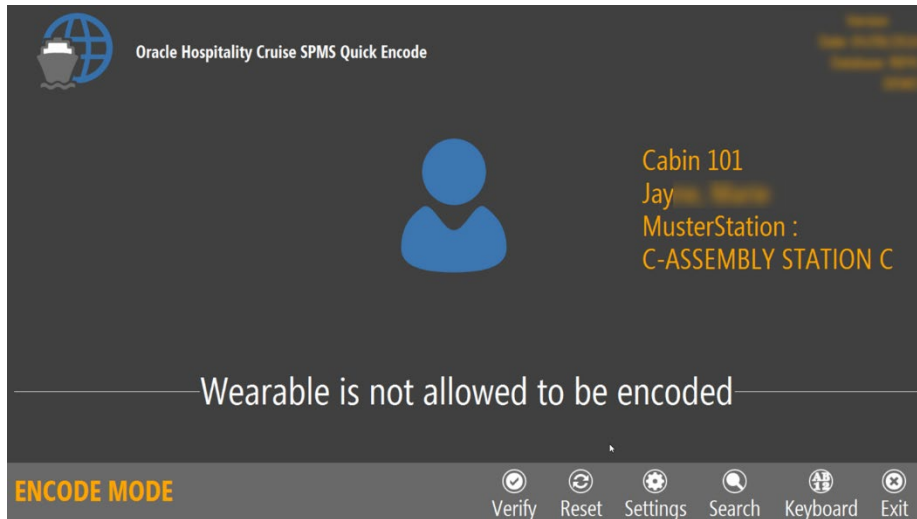

Figure 3-5 - Encode Mode for Non Ving RFID Card.
- If the wearable RFID ID exists in RFID table and wearable printed directly from SPMS through a printer (RFID_PRINTED=1), it prompts the "Wearable is not allowed to be encoded". See *Figure 3-5 - Encode Mode for Non Ving RFID Card*.